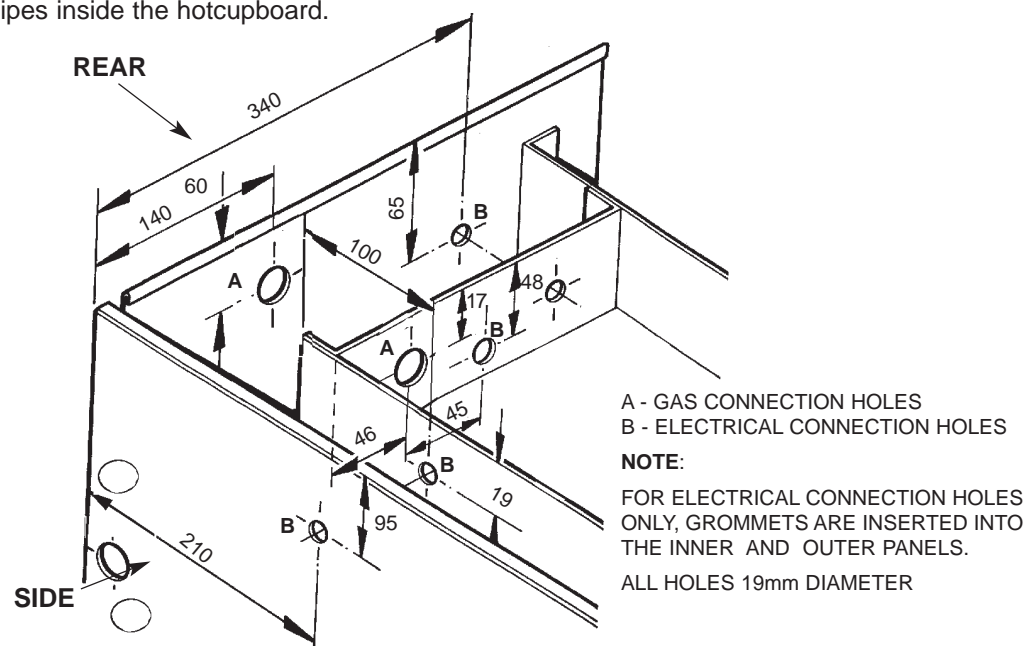

Fig. 3
- (a) Decide whether the gas supply is to enter from the back or side of the hot cupboard. (See Fig. 3). Knock out or drill appropriate holes. If the gas supply is to enter from the side of the hotcupboard, use one of the spark knock-out holes in the side panel. Pierce centre of top-hat grommet. Run supply pipe through grommet, then insert grommet into side panel hole.
Decide whether the mains is to enter from the back or side of the hotcupboard. Knock out or drill appropriate holes and fit grommets (supplied with hob unit). (See Fig. 3).